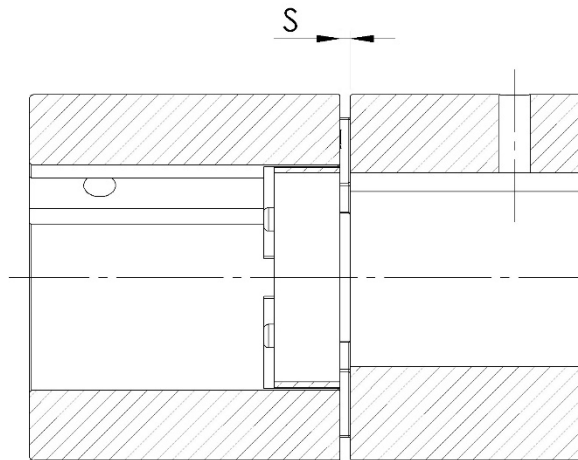

Fig. 5
3. Then approach the two half-couplings by positioning the second hub in such a way that the dimension S respects the values in Table 1, which vary depending on the size of the coupling (Fig. 5)